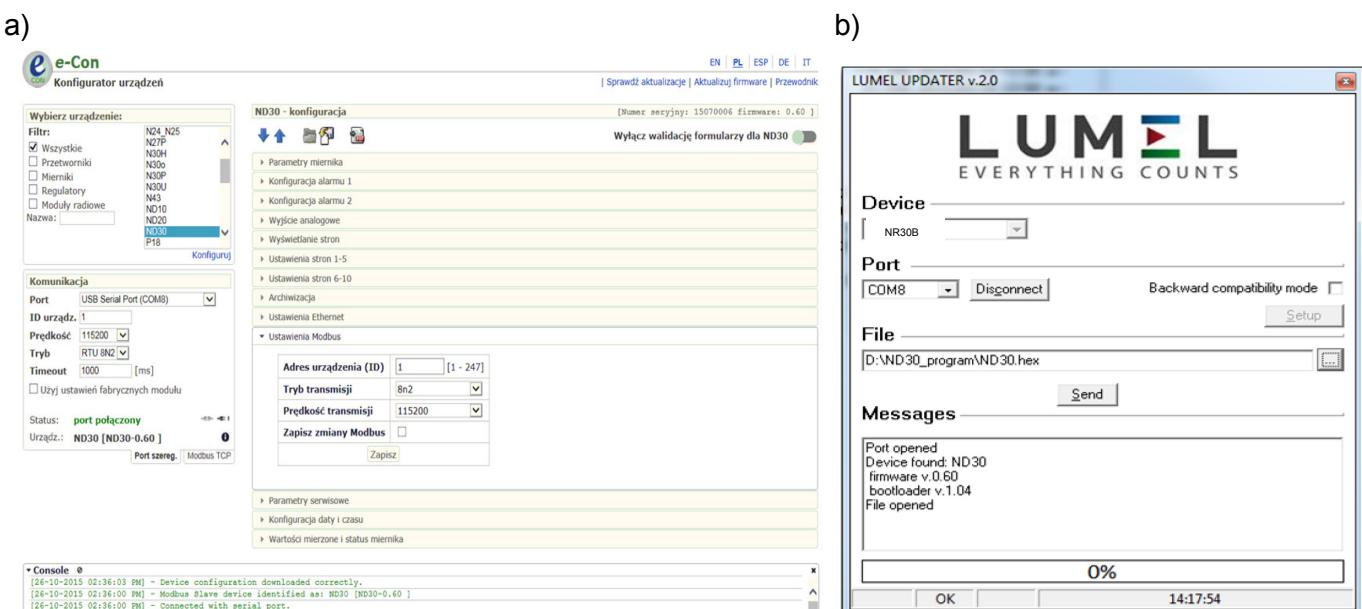

Fig.24. View of program window: a) eCon, b) firmware upgrade
After starting eCon the serial port, speed, mode and meter address should be set in the settings. Then select NR30BAC meter and click Configure To read all the settings, click the down arrow, then the floppy icon to save the settings to a file (to restore them later). After selecting *Update firmware* (in the upper right corner of the screen) *Lumel Updater* (LU) window will open - Fig. 24.b. Press Connect. *Messages* information window contains info about the progress of the upgrade process. When the port is properly opened the display shows: *Port opened*. There are two ways to enter the upgrade mode: remotely through the LU (based on settings in eCon - address, mode, speed, COM port) and by turning on the meter power with the button pushed (when entering the bootloader mode with the button, communication parameters: speed 9600, RTU8N2, address 1). The display will show boot with bootloader version, and LU program will show the message *Device found* and the name and program version of the connected device. Press the “...” button and select the meter update file. When the file is properly opened *File opened* message is displayed. Press the *Send* button. After successful upgrade the meter switches to normal operation, and the information window shows *Done* and the upgrade duration. After closing the LU window, go to *Service Parameters*, select *Set Meter Defaults* and press the *Restore* button. Then press the folder icon to open the previously saved settings file and press the up arrow to save the settings in the meter. The current software version can also be checked by reading the greeting messages of the meter after powering up.